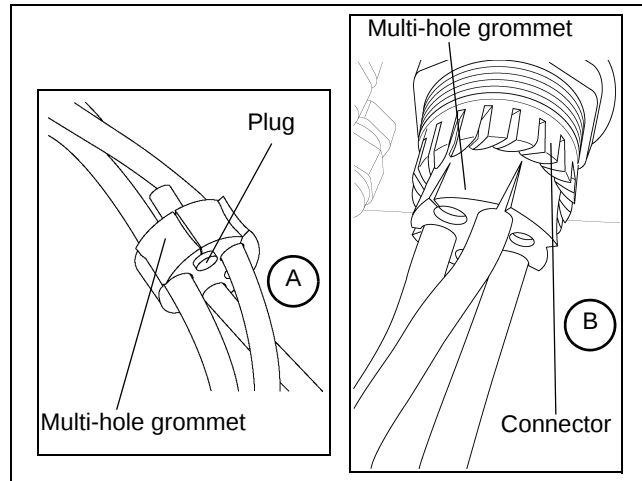

Figure 5D A) Load cell wire in multi-hole grommet. B) Grommet wedged into connector.
- b. Run load cell cables into multi-hole grommet by sliding cables through slit on side of grommet. (See Figure 5D-A.)
- f. Wedge grommet into hole. (See Figure 5D-B.)
NOTE: If only three (3) or four (4) holes are used in the grommet, you need to seal the open holes using the plugs supplied to make it water tight. (See Figure 5D-A.)